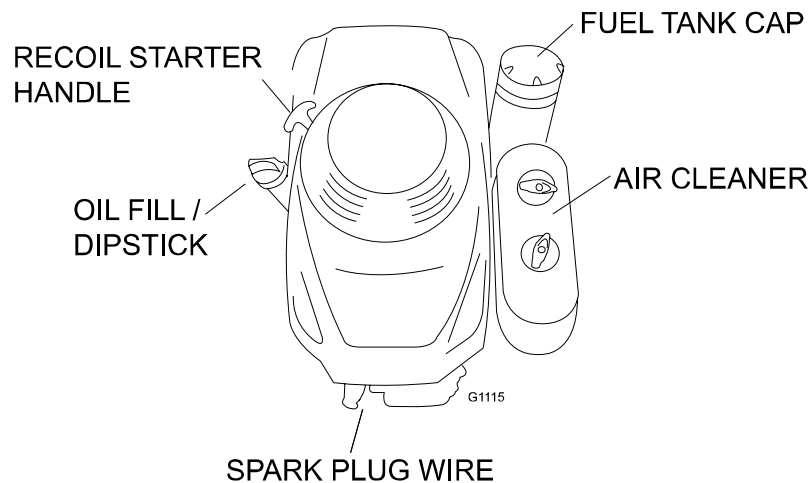

FIGURE 5
1. Clean around the fuel tank cap (Fig 5 & 6).
1. Connect the wire to the spark plug (For Honda Units: See Figure 5, For Kawasaki Units: See Figure 7).